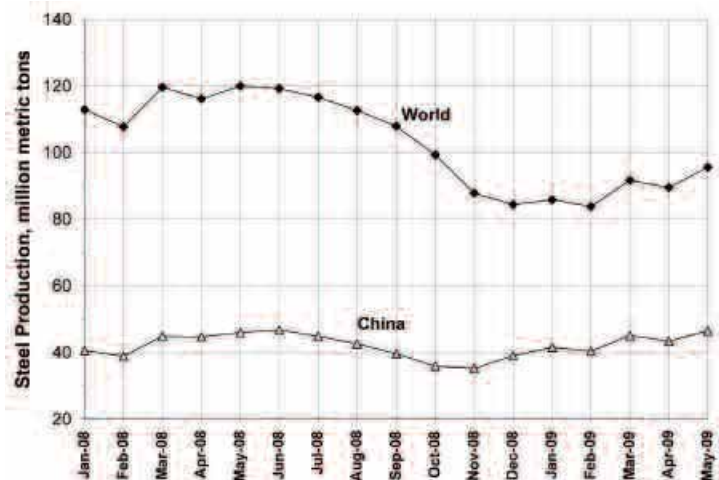
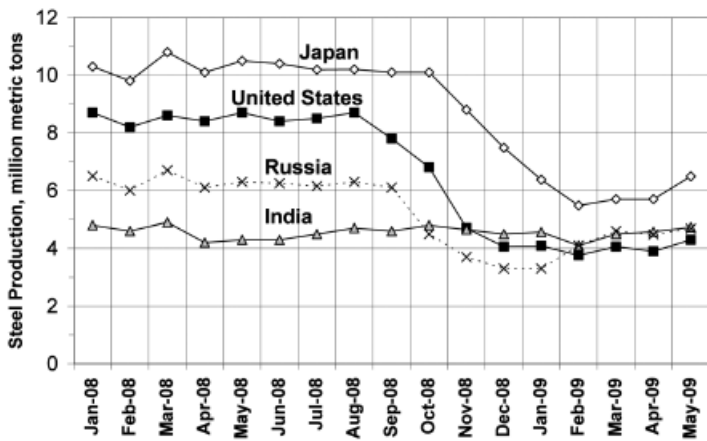

Figure 1. Steel production for the World and China (#1 producer) for 2008, and 2009 (to date).
Figure 2. Steel production data for the world's #2 through #5 producing countries for 2008 and 2009 (to date).
Based on data from [worldsteel.org](http://worldsteel.org), **Figure 1** (World and China) and **Figure 2** (Japan, U. S., Russia, and India) show the steel production for the world and the top-5 steel-producing countries in 2008 and 2009 (to date). Per these data, the following table shows the timing of steel production changes for the world and the top-5 steel-producing countries in 2008 and 2009 (to date):
It is significant to note in **Figure 2**, that the world order of steel producers has changed with the U. S. dropping from third to fifth, behind Japan, Russia, and India. And the comparison of '08 vs. '09 steel production ([worldsteel.org](http://worldsteel.org)) shows that China and India are the only major producers that are making more steel in '09, but only slightly at +0.4% and +0.5%, respectively, through May. The others all show less production in '09, as follows: World -22%, Japan -42%, Russia -32%, U. S. -53%.
The process of constructing an isothermal section for the MgO-Al2O3-SiO2 system begins, simply enough, by selecting the desired temperature and tracing along that temperature across all of the primary phase fields in the system. For instance, if the 2200°C isotherm was selected, the process would begin by tracing that temperature across the only phase field in which it is present, that being the magnesia primary phase field as shown in **Figure 2**. Any portion of the diagram that is below the temperature of interest can be ignored as it is now just part of the liquid region. In the 2200°C case, the liquid region encompasses most of the MgO-Al2O3-SiO2 chemistries. The remaining region in the lower left corner of the diagram is a two-phase region bound by solid magnesia and liquid. The key is to
**Figure 2.** Construction of the 2200°C isothermal section from the MgO-Al2O3-SiO2 ternary diagram.; small inset at upper right illustrates the result. (Note: point “a” is included for discussion in the text and is not part of the section.)
trace the liquid line through all of the phase fields, then consider each phase field separately, drawing a straight construction line from the end points of the liquid curve, back to the compound specified by the phase field. At 2200°C, any chemistry within the magnesia-plus-liquid region will obviously be a mixture of solid magnesia and liquid. The specific liquid chemistry that will be in equilibrium with the solid magnesia can be determined by constructing a straight line from the magnesia corner of the diagram through the chemistry of interest, until it contacts the liquid. The resulting line is a tie line connecting the two conjugate phases (analogous to the situation in binary phase equilibria) so the binary lever rule can be applied, with the starting chemistry as the fulcrum, to determine how much of each phase is present. Considering the chemistry of point **a** in **Figure 2**, the solid magnesia content is 30 wt% while the liquid is 70 wt%. The chemistry of each phase is specified by the ends of the tie line, with the solid chemistry being 100 wt% MgO and the liquid chemistry being determined by applying the ternary lever rule at the “liquid” end of the tie line. Using that procedure allows the 70 wt% MgO, 25 wt% Al2O3, and 5 wt% SiO2 liquid chemistry to be calculated.
The lack of Alkemade lines in the example of **Figure 2** means that three phases cannot coexist at 2200°C. In cases where Alkemade lines are included, equilibrium between three phases must exist. The three phases can be either two solid and one liquid in equilibrium or three solids in equilibrium.
At 1600°C, as shown in **Figure 5**, the chemistry indicated by point **x** is located in the spinel-plus-liquid region. Repeating the same procedure that was used with **Figure 2** for determining the solid/liquid ratio yields 87 wt% liquid and 13 wt% spinel. By defining the overall composition and the temperature, only one liquid composition is in equilibrium. Using the ternary lever rule, that liquid composition is 30 wt% MgO, 28 wt% Al2O3 and 42 wt% SiO2.